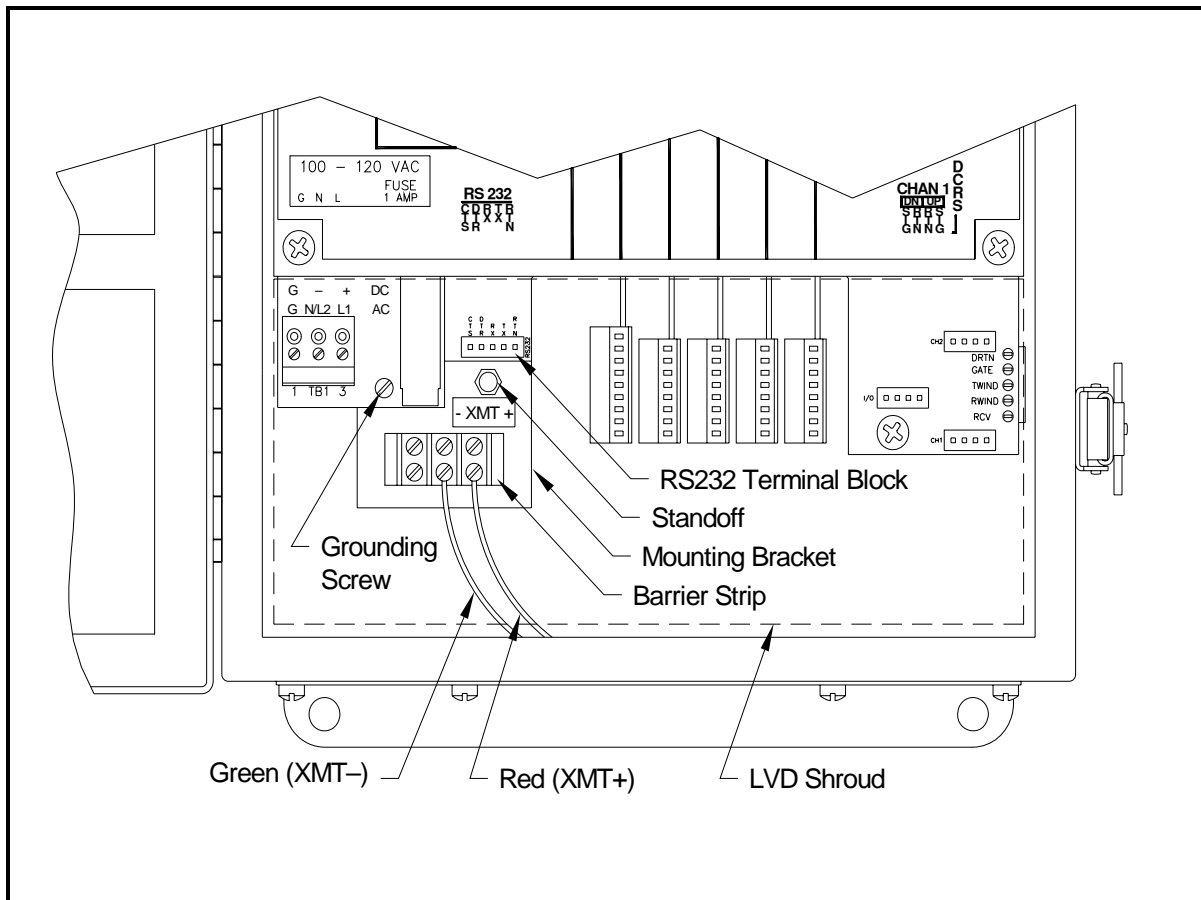

Figure 6-1: Interface Converter Mounting
A special bracket containing the serial interface converter and a three-terminal barrier strip is mounted inside the Model GM868, just below the RS232 terminal block (see Figure 6-1 below). The standard RS232 terminal block is wired to the input of the serial interface converter, and the RS485 output of the serial interface converter is wired to the barrier strip.
Standard factory wiring of the RS485 serial interface is configured for point-to-point wiring. That is, a single Model GM868 may be wired directly to a single personal computer. To connect the RS485 serial interface, refer to Figure 6-1 on page 6-5 and complete the following steps:
3. Remove the serial interface converter *mounting bracket* by removing the standoff located just below the RS232 terminal block and the grounding screw just to its left (see Figure 6-1 on page 6-5).